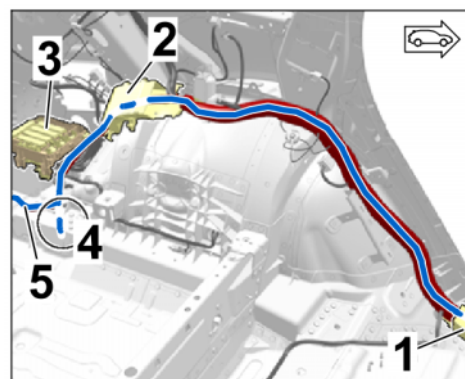

Figure 17
3.2.3 Wheel housing area, left ( $\Rightarrow$  Figure 17)